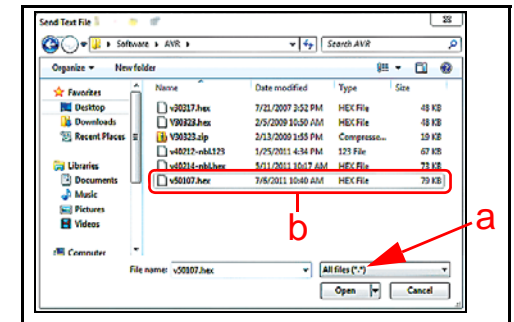

Figure 12 "Send Text File..." Menu
3. Select the new Software Hex-File from the displayed Windows® File Menu (See Figure 12 b). HyperTerminal will download to the Unit and return the following response: